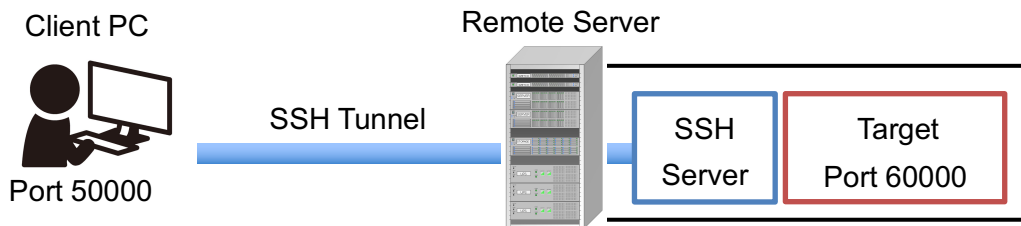

Figure 5.2-1 Abstract of local forward
- 3) In the **Select Direction for Forwarded Port** dialog, select **Forward Local Port** (it means the local forwarding) and enter the port number to be used for PBVR Client, which is corresponds to the port 50000 in Figure 5.2-1. In the **to remote machine** text field, enter the domain name or the IP address of the server, which is corresponds to the target address in Figure 5.2-1. In the **port** field, enter the port number to be used on PBVR Server, which is corresponds to the port 60000 in Figure 5.2-1. Click on **OK** to complete the setup of port forwarding.
- 4) Connect to the server. Select **File > New Connection** from the menu bar. In the **New Connection** panel, enter the host name of the server which is corresponds to the remote server address in Figure 5.2-1, and click on **OK**. In the **SSH Authentication** panel, enter the user name and passphrase, or specify the location of the private key file, and click on **OK**.